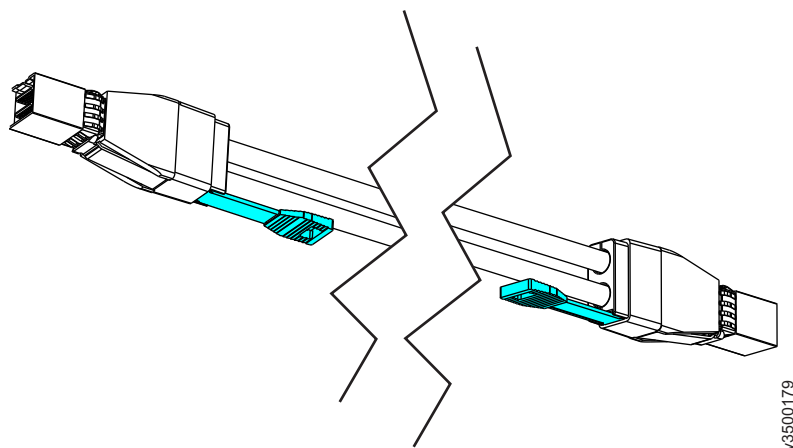

Figure 31. Mini SAS HD to Mini SAS HD cable
- Mini SAS HD to Mini SAS HD (Figure 31 on page 37)